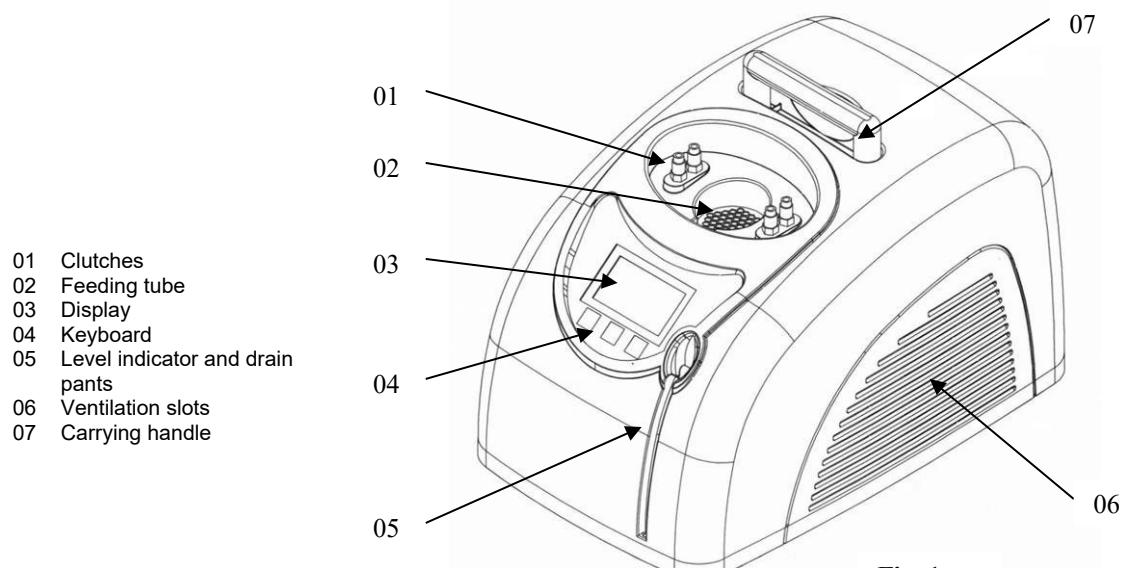

Fig. 1
- The hose is plugged into the couplings with the locking grommets (Fig. 1).